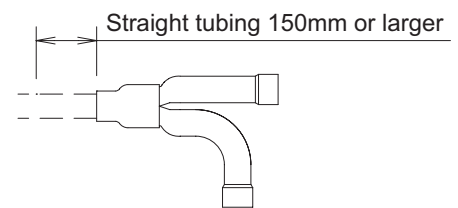

Fig. 2-259
- For branching tubes, install 150mm or larger (including reducer) straight tubing up to the point where the tube branches (or after the point where the tubes join together). (Fig. 2-259)